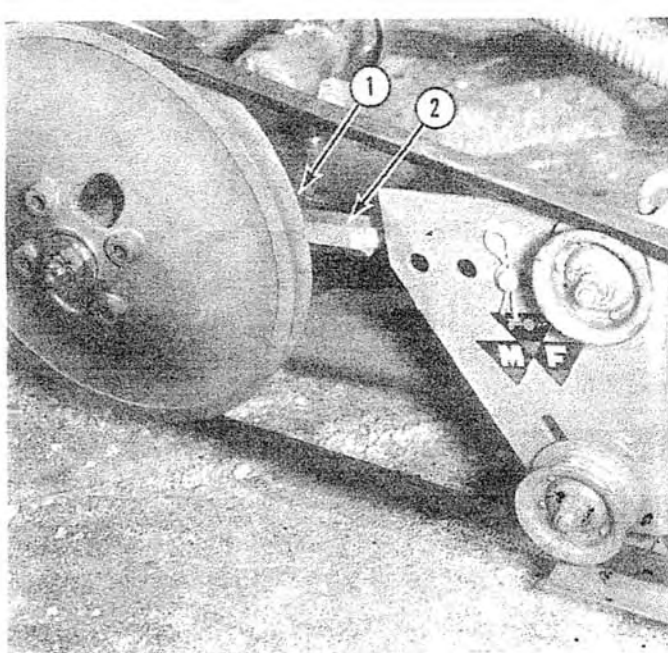

Fig. 35 - Belt Adjustment
2. Tighten the belt by means of the belt adjustment turnbuckle (Fig. 35) which pivots the drive shaft housing about its pivot pin. Tighten the turnbuckle until the belt is tight enough so that about 20 lbs. thumb pressure will deflect the belt  $\frac{3}{4}$  inch to 1 inch (at a point midway between the pulleys).